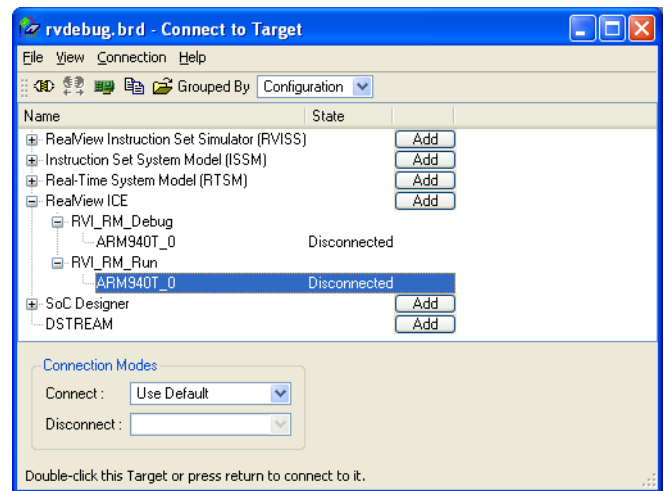

Figure 3-5 RealMonitor Debug Configuration for running target
4. Make a copy of the Debug Configuration. This new Debug Configuration is the one you use to enable RealMonitor on the target. For this example, change the name of the RealView ICE configuration to **RVI_RM_Run**. Figure 3-5 on page 3-45 shows an example: